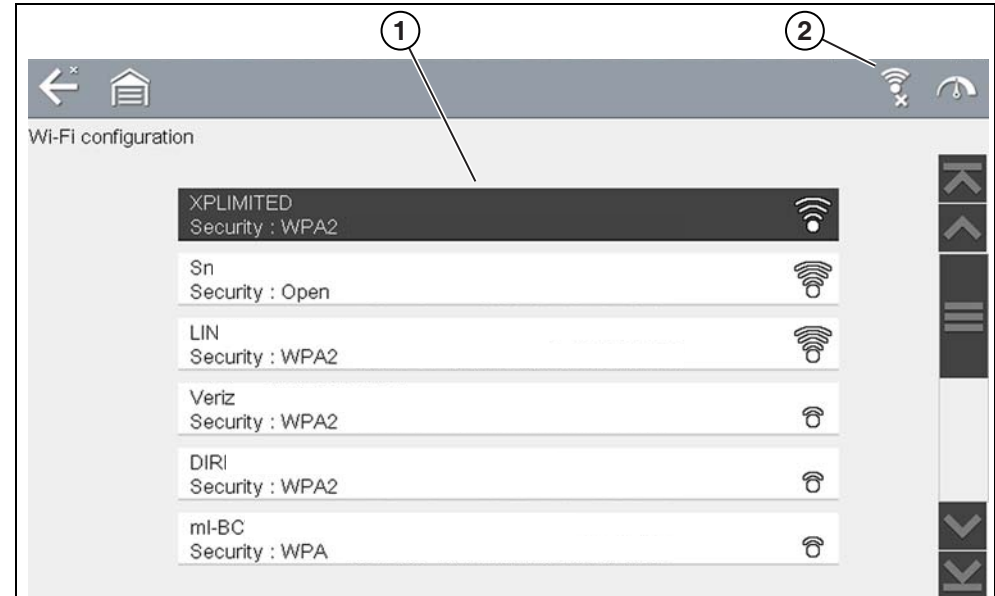

Figure 11-2 Wi-Fi Configuration Screen
- Select your network. Use the scroll feature to show all active connections (Figure 11-2).